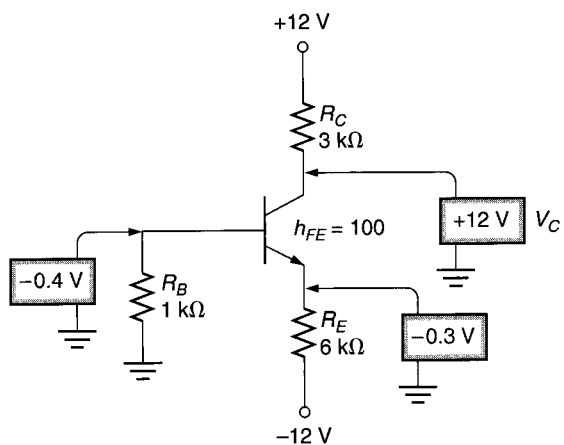

FIGURE 7.43
48. What fault is indicated in Figure 7.43?